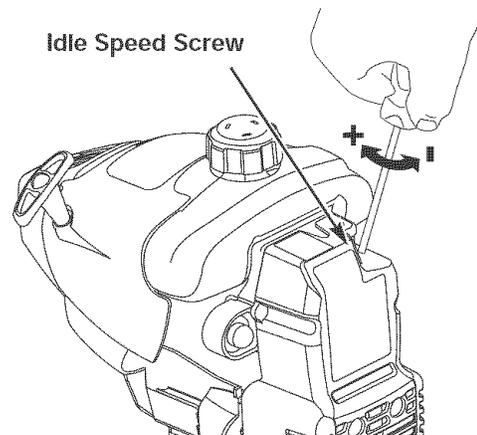

Fig. 18
The idle speed of the engine is adjustable through the air filter/muffler cover (Fig. 18).
2. Release the throttle trigger and let the engine idle. If the engine stops, insert a small phillips or flat blade screwdriver into the hole in the air filter/muffler cover (Fig. 18). Turn the idle speed screw in, **clockwise**, 1/8 of a turn at a time (as needed) until the engine idles smoothly.